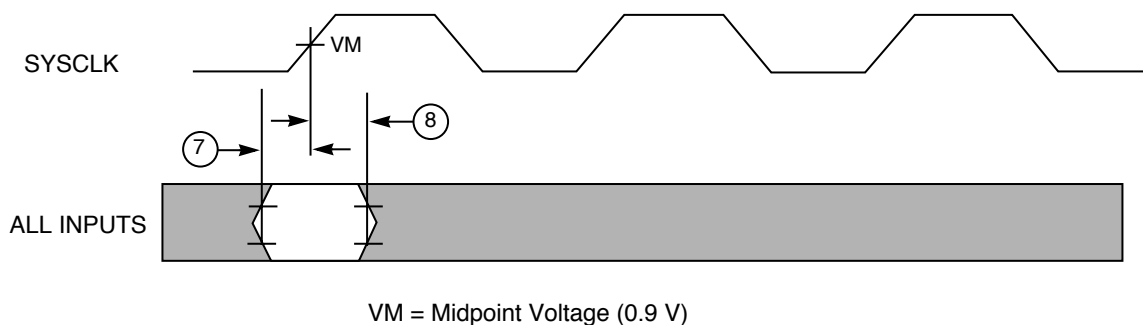

Figure 2. Input Timing Diagram
Table 7 provides the input AC timing specifications for the 604e as defined in Figure 2. These specifications are for 266, 300, and 333 MHz processor core frequencies.
1. Input specifications are measured from the TTL level (0.8 or 2.0 V) of the signal in question to the 0.9 V of the rising edge of the input SYSCLK. Input and output timings are measured at the pin (see Figure 2).
Figure 2 provides the input timing diagram for the 604e.